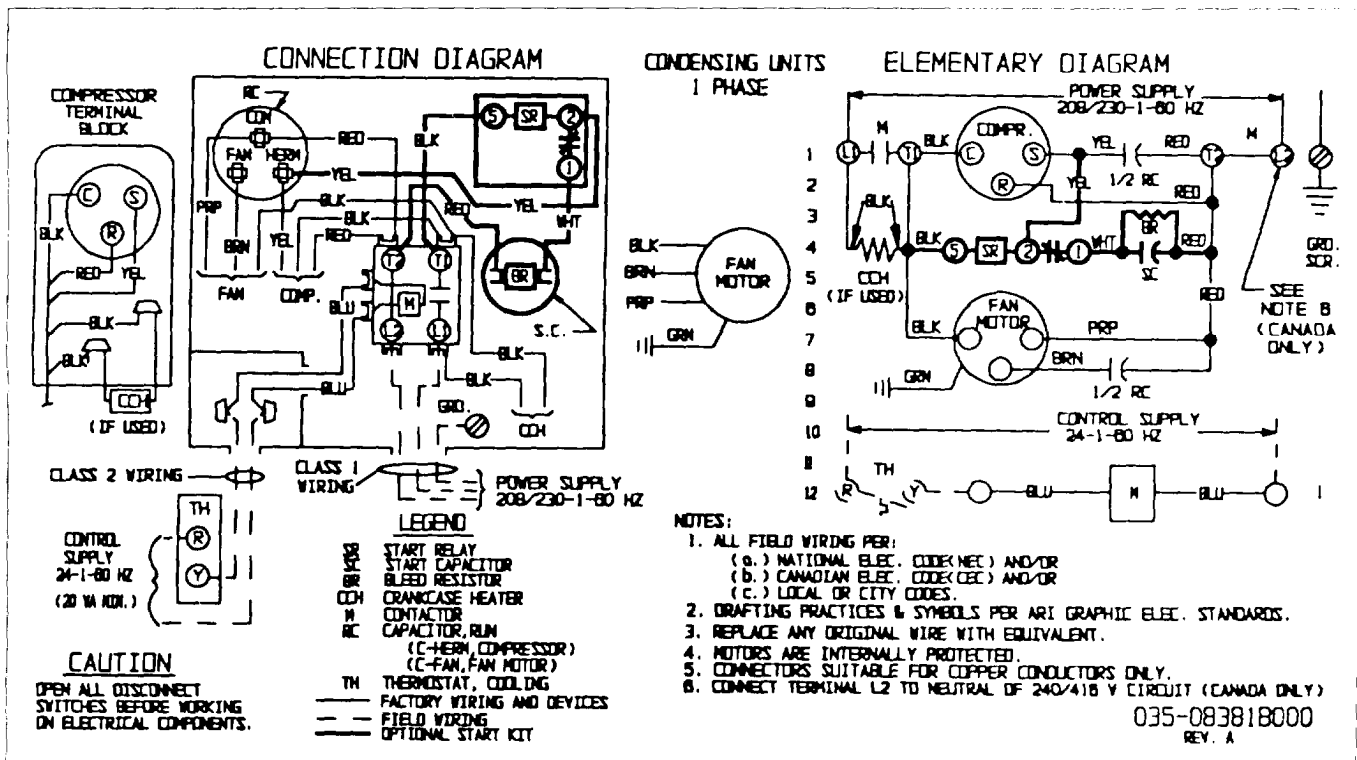

FIGURE 2 - OUTDOOR UNIT WIRING DIAGRAM - COOLING UNITS
- Then mount the Start Capacitor Mounting Bracket using the two (2) #8 x 1/2" hex head screws.
- Refer to the wiring diagram, Figure 2. Connect the four wires of the kit as follows: